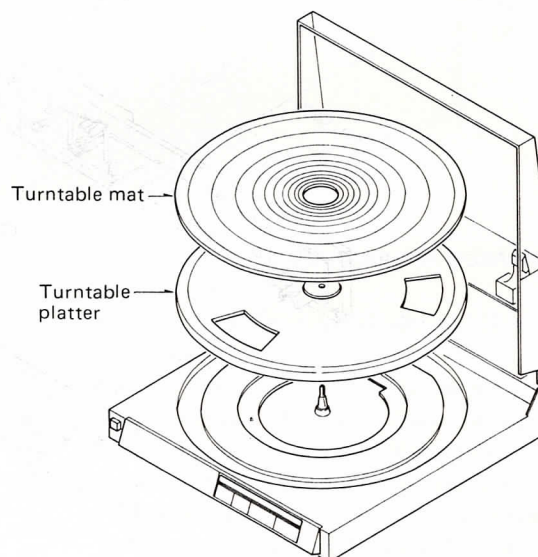

Fig. 2
2. Remove the turntable mat and lift the turntable platter. (Fig. 2)